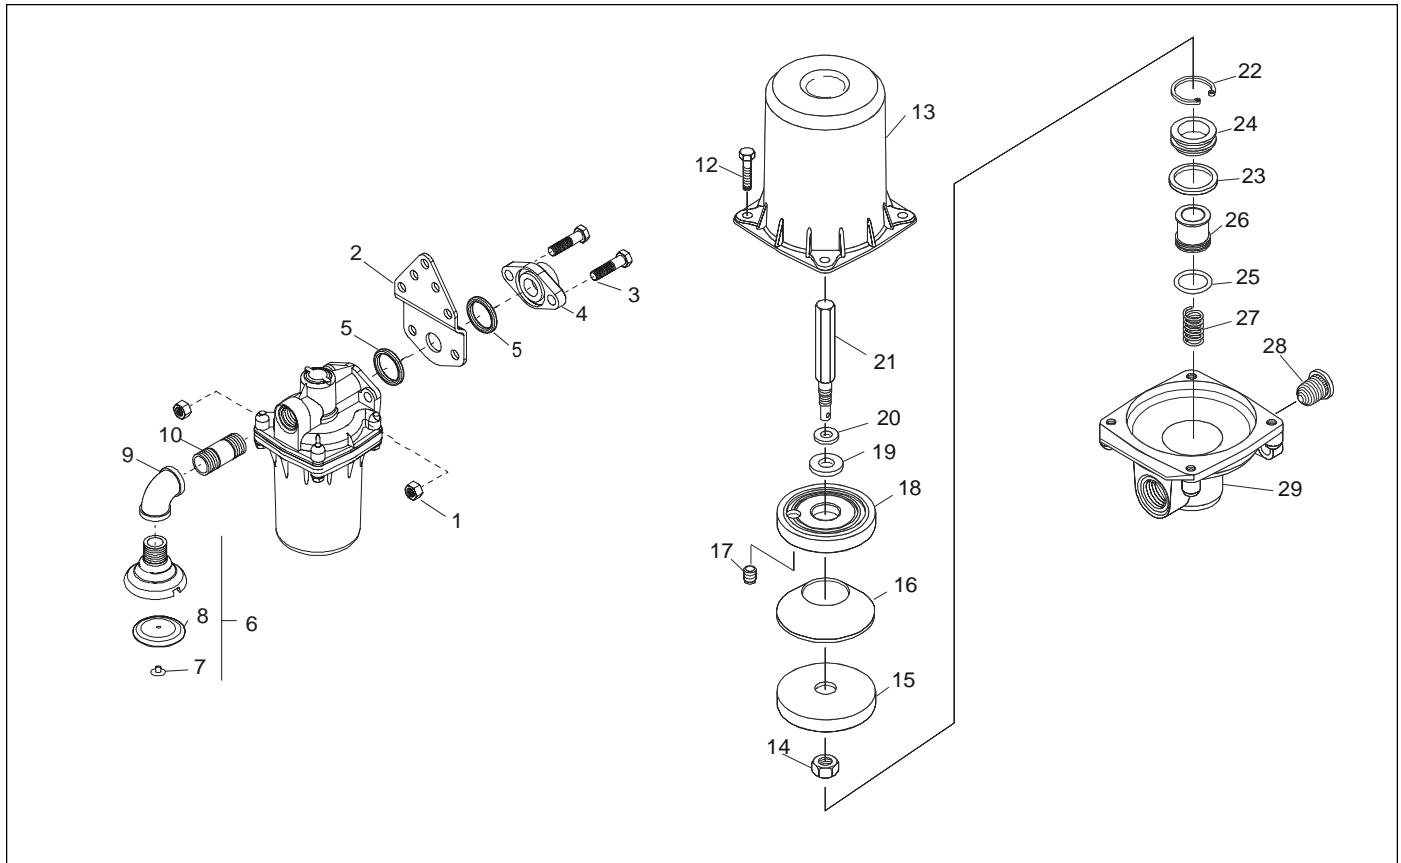

Figure 3 - Exploded View
9.1 DISASSEMBLY (Figure 3)
9.3 ASSEMBLY (Figure 3)